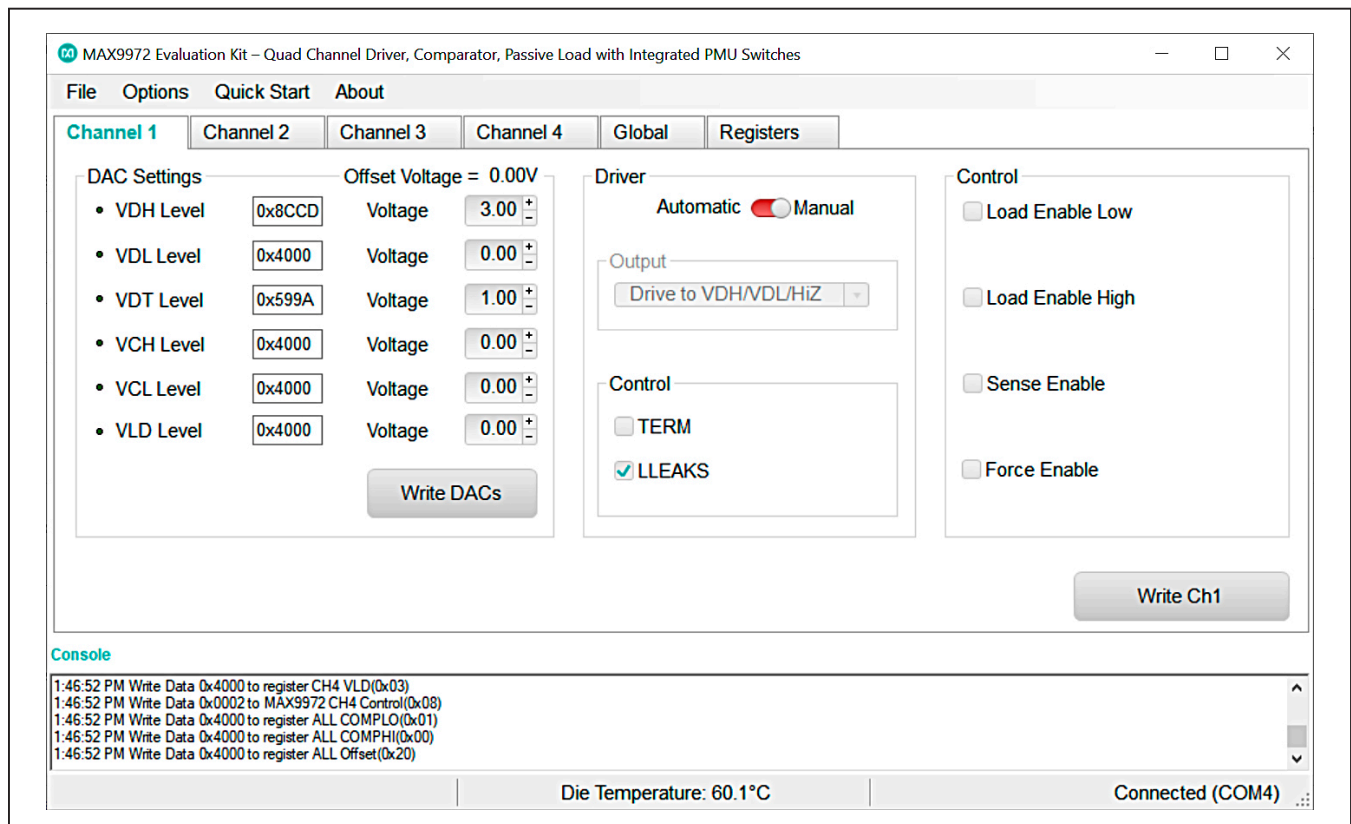

Figure 1. MAX9972 EV Kit Software Main Window (Ch1 Tab)
- 8) Put the EV kit into drive mode by setting register values as shown on the **Channel 1** tab, as shown in Figure 1. In this mode, **VDH Level Voltage** is set to 3.00 and **VDL Level Voltage** is set to 0.00 for Channel 1.